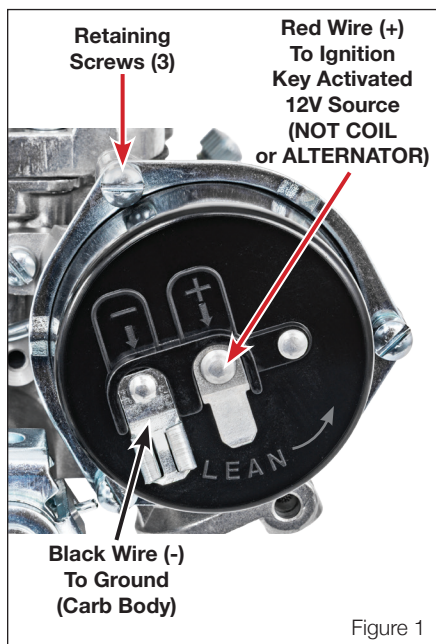

Figure 1
3. On electric choke models, remove one choke housing retaining screw and install eyelet end of choke ground wire (black) to the choke housing, and reinstall the screw. Connect clip end of choke ground wire to negative (-) spade terminal on choke housing. **(See Fig. 1 below for reference)**